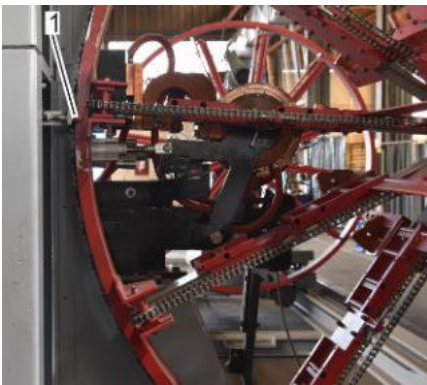

Fig. 36: Reference-initiator
2. Use a metal tool to check the contact of the reference-initiator (Fig. 36/1) on the electrode support wheel for function.